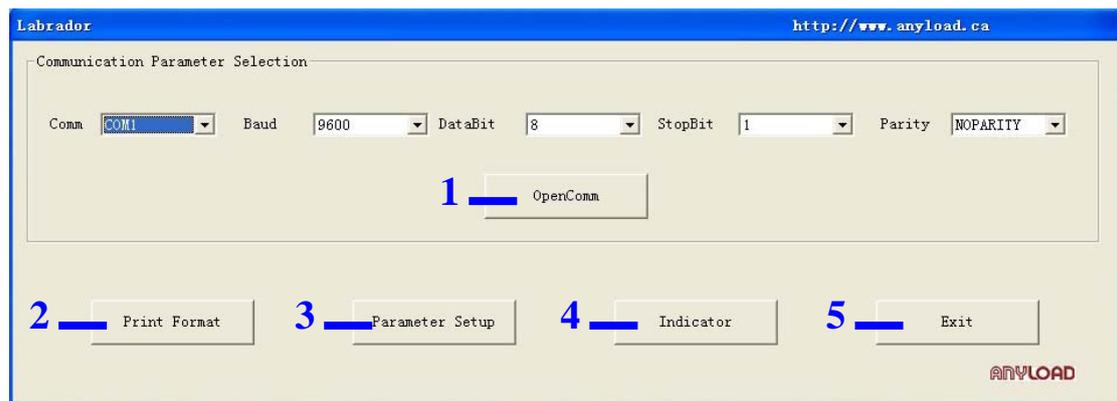

Figure 1-1 Main Interface
1.2.1 The Main Interface(see figure 1-1)